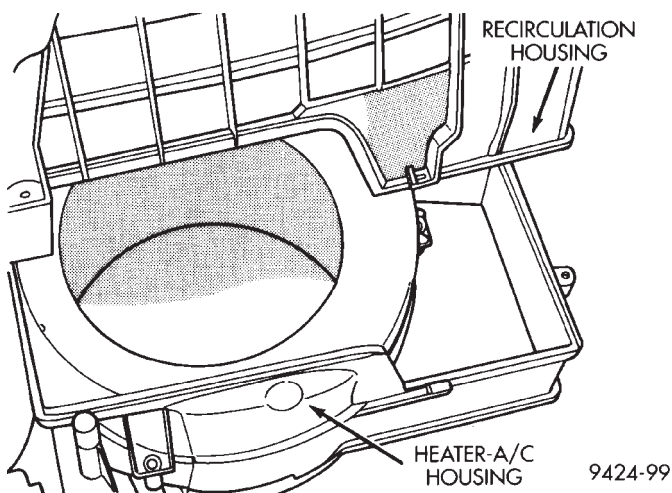

Fig. 40 Recirculation Housing
- (4) Remove recirculation door and housing (Fig. 40).